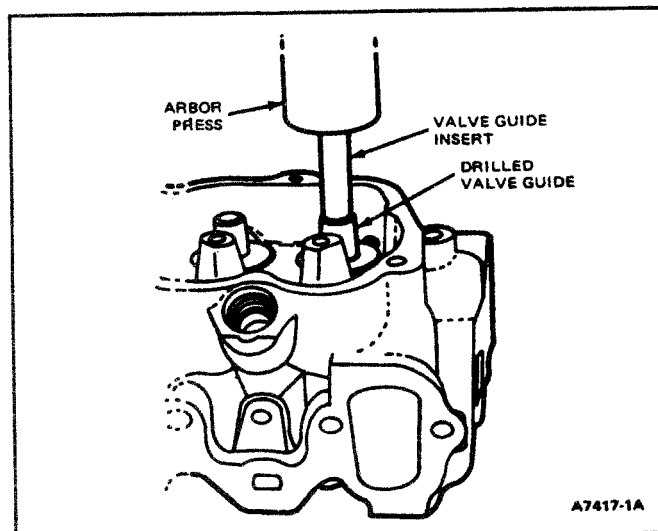

FIG. 70 Installing Valve Guide Insert
3. Chill repair insert in dry ice. Carefully press insert in (Fig. 70).